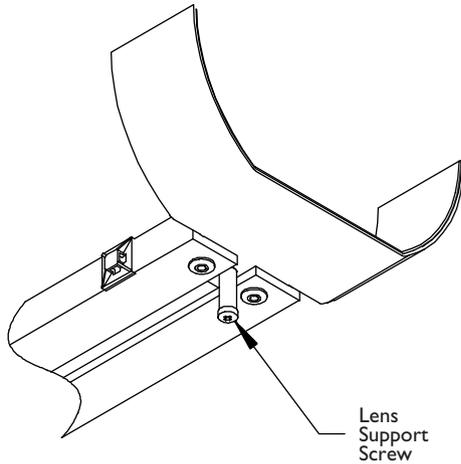

FIGURE 19 Support Screw Adjustment
1. The lens support screw is provided to support the rail assembly. Adjustment will only be necessary if the rail assembly is rotated at angle other than horizontal. If the screw head is not touching the cover when the cover is installed, loosen the screw until it does. See FIGURE 19.